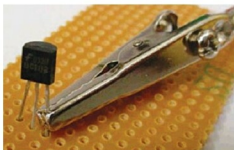

Fig. 3: A crocodile clip holding the heat-sink in place
**Precautions.** Some components, such as transistors, can get damaged by heat when soldering. It is wise to use a heat-sink clipped to the lead between the joint and component body, as shown in Fig. 3. You can buy a special tool, but a standard crocodile clip works just as well and is cheaper!